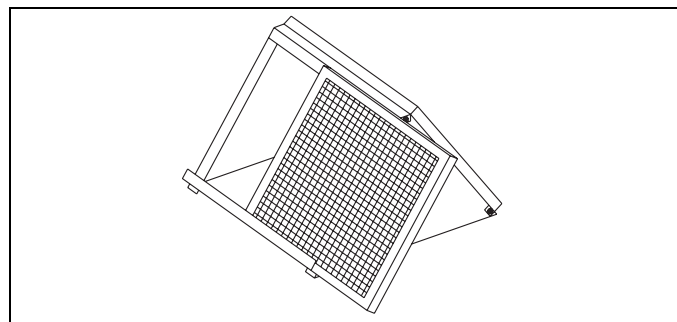

FIGURE 6: Mobile Home Filter Frame Accessories
- If the return air duct and plenum are not required by state, local or regional codes then the filter can be attached to the top of the furnace as shown in Figure 6.